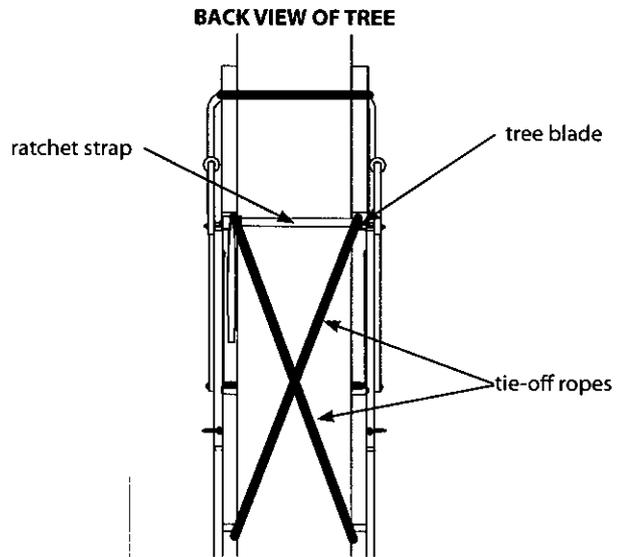

Figure 4a: Applies to RE607
e. (FOR ALL LADDERS) Wrap the previously attached tie-off ropes hanging down from platform, around the back side of tree in opposite directions of each other. Pull the ropes snug and tie them to the ladder at the stabilizer bar height location. This ground level ladder-to-tree attachment will prevent the ladder from pulling away from the tree while ascending to top for final ratchet strap attachment. The same holds true when ladder removal is necessary. **SEE FIGURE 4a and 4b.** Be absolutely sure the tree blade(s) at the top and the stabilizer bar are all contacting tree.